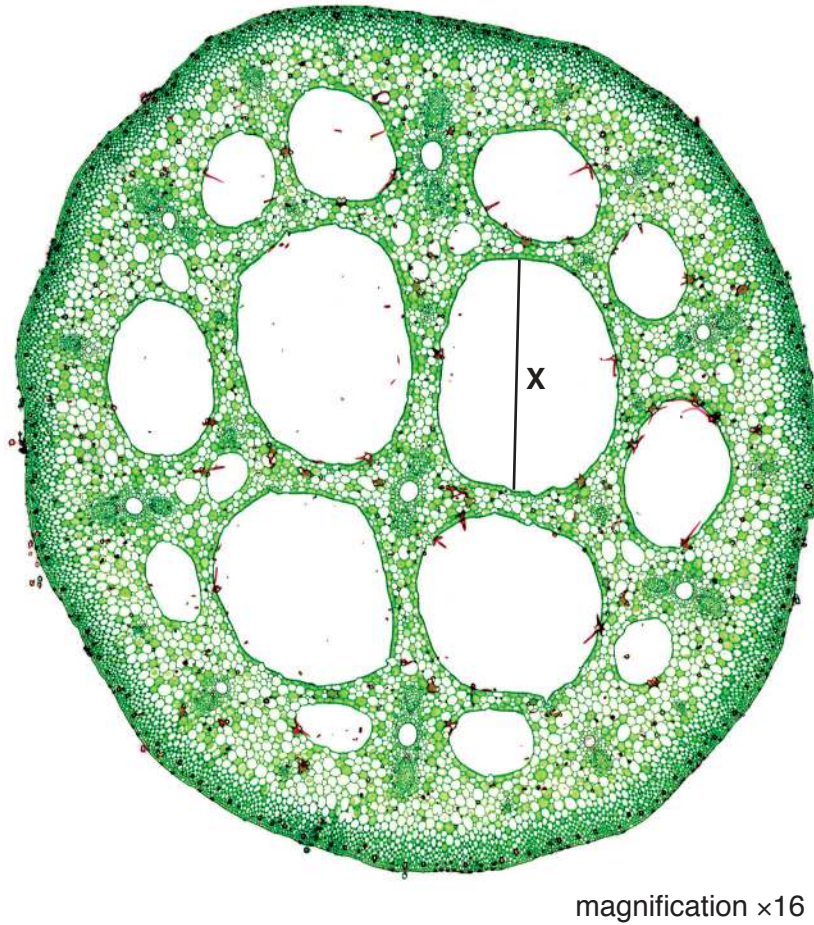

Fig. 2.2
- (b) Fig. 2.2 is a photomicrograph of a stained transverse section through a stem of a different type of plant.
- (i) In Fig. 2.2 the line **X** is drawn across the length of an air space.
- (ii) Observe the stem on **J1** and the stem in Fig. 2.2 and identify the differences between them.